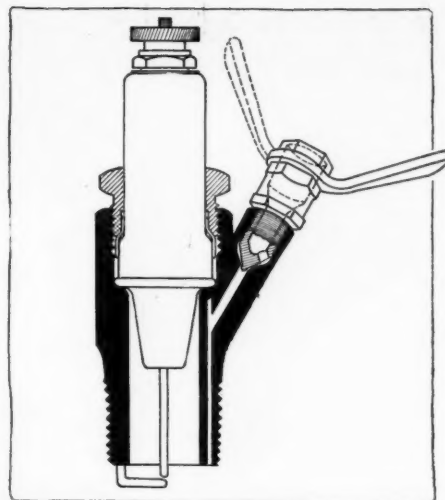

Fig. 1—New Champion priming plug
**NEW Champion Priming Plug—**The Champion Spark Plug Co., Toledo, O., has brought out a new type of priming plug, Fig. 1, especially adapted for winter use.